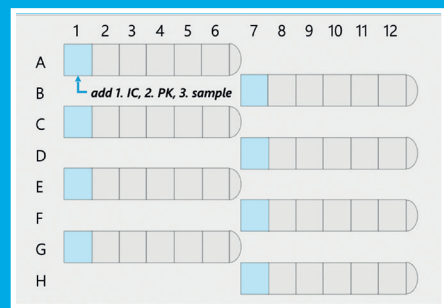

Fig. 2
5. Add following reagents to the same well (lysis buffer, blue) (Fig. 2)
- 20 μ L Proteinase K (PK)